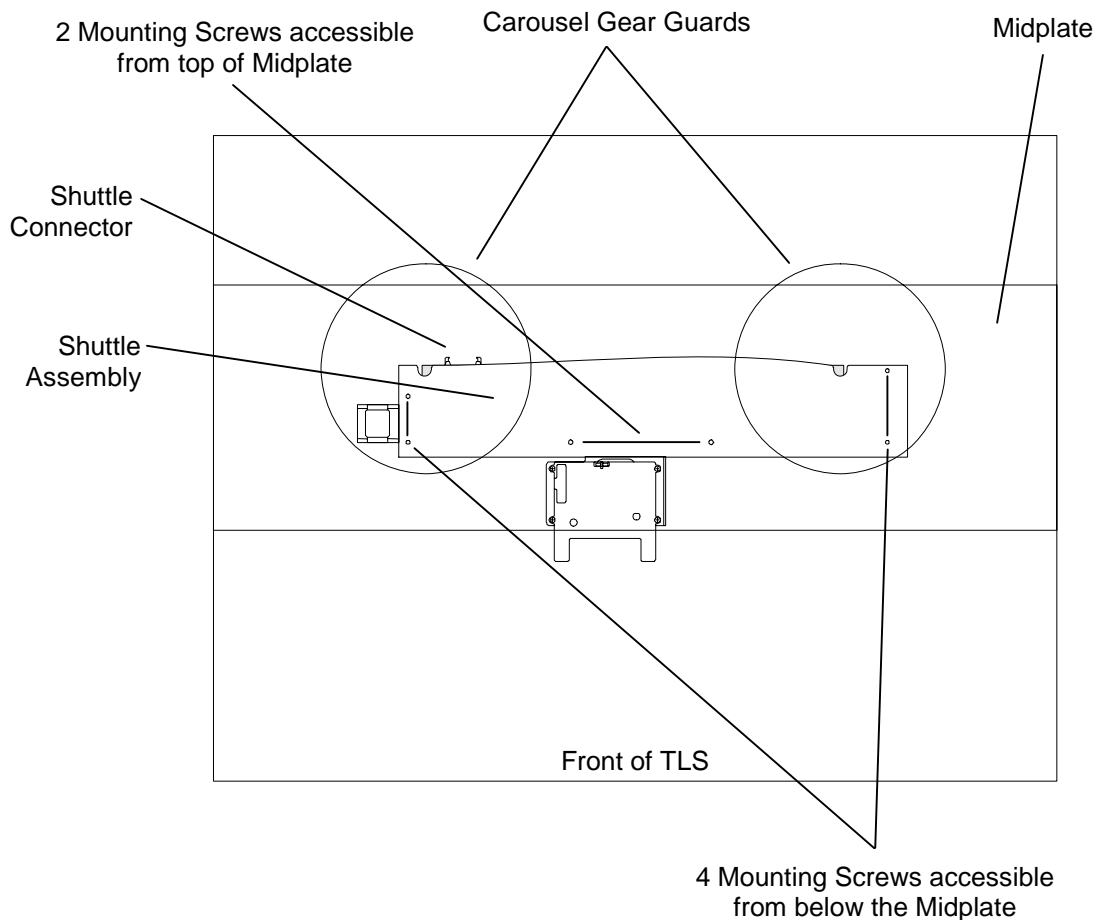

Figure 7-80 Top View of Shuttle Assembly
4. Reach into the TLS through the right side Access Panel opening and disconnect the ribbon cable from the SHUTTLE connector (Figure 7-80) on the PCBA, which is attached to the Shuttle Assembly.
7. From the front of the TLS, use a number 2 Phillips screwdriver to remove the four Shuttle Assembly mounting screws, which are accessible underneath the Midplate (Figure 7-80).
8. While supporting the Shuttle Assembly with one hand, remove the remaining two mounting screws, which are accessible from the top of the Midplate (Figure 7-80).
2. Rotate the Shuttle Assembly downward to clear the support member and guide shafts while positioning it under the Midplate. Align the Shuttle Assembly with the mounting screw holes in the bottom of the Midplate (Figure 7-80).
3. While supporting the Shuttle Assembly with one hand, replace the two mounting screws, which are accessible from the top of the Midplate (Figure 7-80).
4. Replace the four remaining mounting screws, which are accessible from underneath the Midplate (Figure 7-80).
5. Reach into the through the right side Access Panel opening and reconnect the ribbon cable to SHUTTLE connector on the PCBA (Figure 7-80).